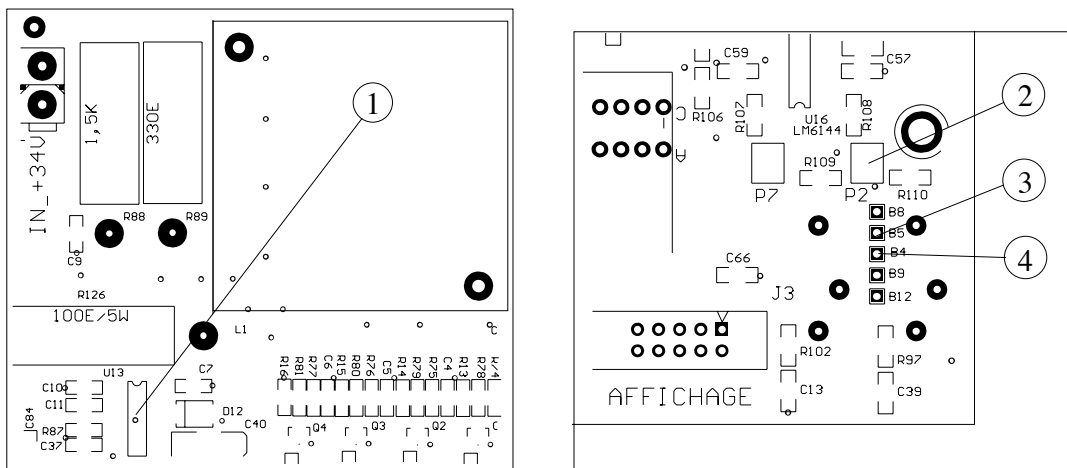

Figure 7.13.: TCU main board, oscillator check (left), current/voltage ratio adjustment (right).
6. Oscillator check (refer to figure 7.13): measure the frequency on the **pin 7 of U13** (1); the value must be 28KHz + /- 3KHz.
7. Current/Voltage ratio adjustment (refer to figure 7.13)
- a) Adjust the trimmer **P4** (6) in order to read **B4** = 0.6V (4).
- b) Set the selector (5) to mode **Setting +I**: the LCD screen should display **1.00 A**.